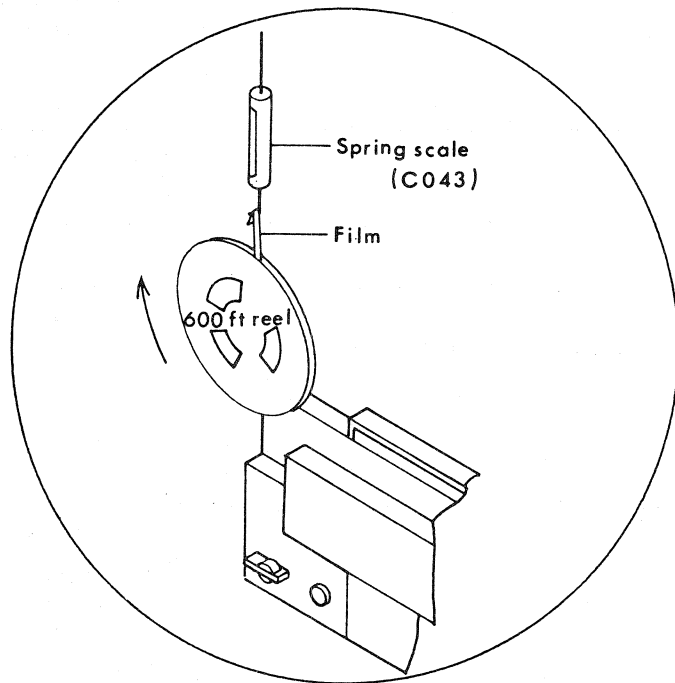

Fig. 36
1. Film take-up force (See Fig. 36):